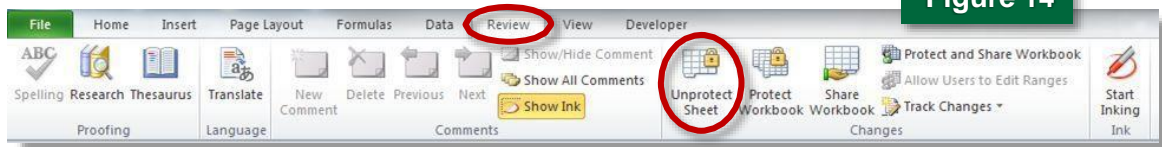

Figure 14
1. On the **Review** tab, click **Unprotect Sheet**, as shown in Figure 14.